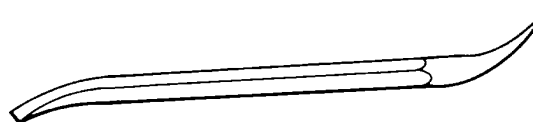

Figure 7-11. Cotter Pin Extractor
**7-7. Cotter Pin Extractor.** The cotter pin extractor, shown in figure 7-11, is a steel bar with a curved taper on one end and a curved wedge on the other.